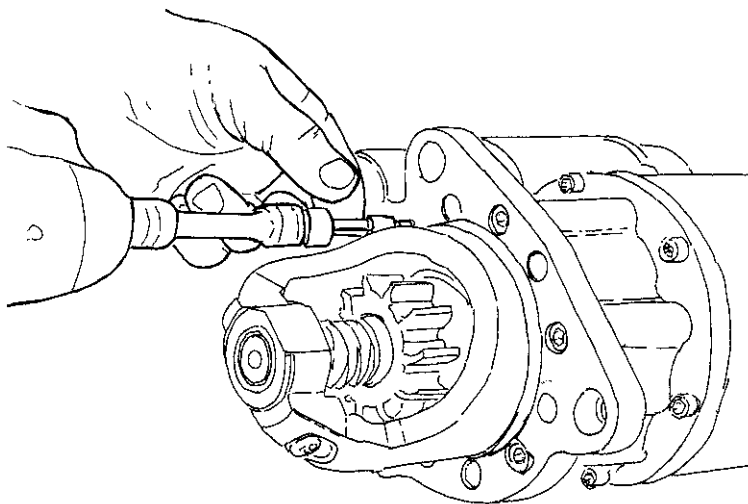

Figure 1 - Remove Starter Motor Nose Cone Housing
4. Place the starter motor on a work bench and remove the nose cone housing mounting bolts (Figure 1).